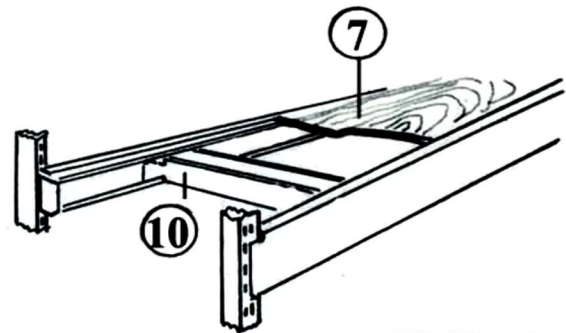

FIG. 4
- E) With Front and Rear Beams secure, twist in Deck Supports (10) onto the lower lip of each Beam. Slide the Deck Supports (10) so that they are evenly distributed over the length of each Beam. The Deck Support (10) should sit level with the lower edge of each Beam. (See FIG. 4 on Page 2)
- F) Slide a Shelf (7) onto the lips of each Beam. (8,9) The Shelf (7) should lie flat and flush against the Beams (8,9) and on top of the Deck Supports. (10) (See FIG. 4 on Page 2)